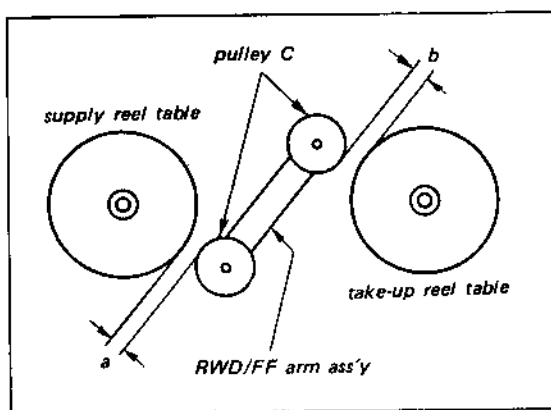

Fig. 3-2 Clearance between pulley "C" and reel tables
1. With the equipment in the STOP mode, make sure that pulley "C" does not touch the reel tables. At the same time the clearance (b) between pulley "C" and the take-up reel table should be larger than the clearance (a) between pulley "C" and the supply-reel table as shown in Fig. 3-2.